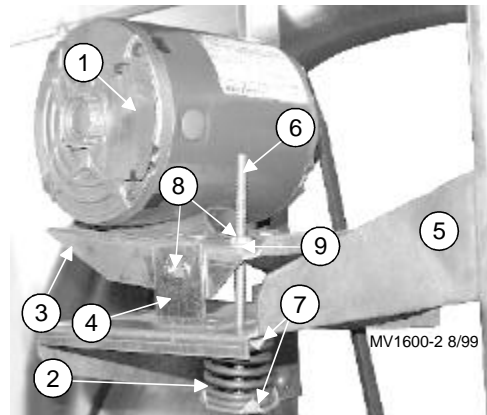

Figure 7. Rear View of Motor Installation.
7. Place the Spring Caps and spring on the 5.5" bolt, and bring the bolt up through both Mount Plates. Then secure the bolt with a flat washer, and lock nut, **see Figure 7**.